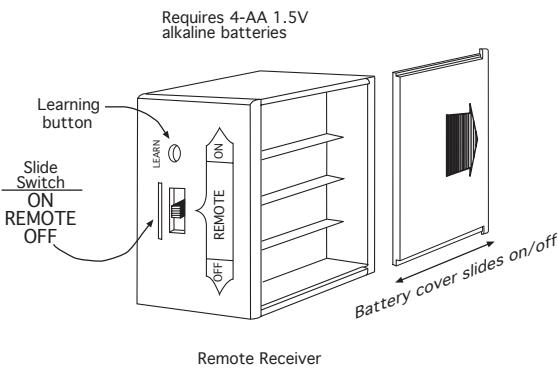

Fig. 11 Remote Receiver
**First**, install (4) AA-size 1.5 **ALKALINE** batteries in the remote receiver (Fig 11). For best performance, remote receiver batteries should be factory fresh when installed. The system operates best when battery output is greater than 5.3 volts. Four (4) new AA batteries should provide an output voltage of 6.0 to 6.2 volts. **Be sure batteries are installed with the (+) and (-) ends facing the correct direction.**